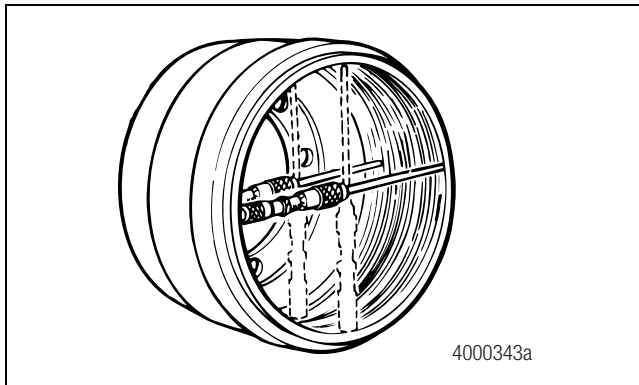

Figure 3.8
- B. Measure the inside diameter of the drum in several locations with a drum caliper or internal micrometer. Figure 3.8.